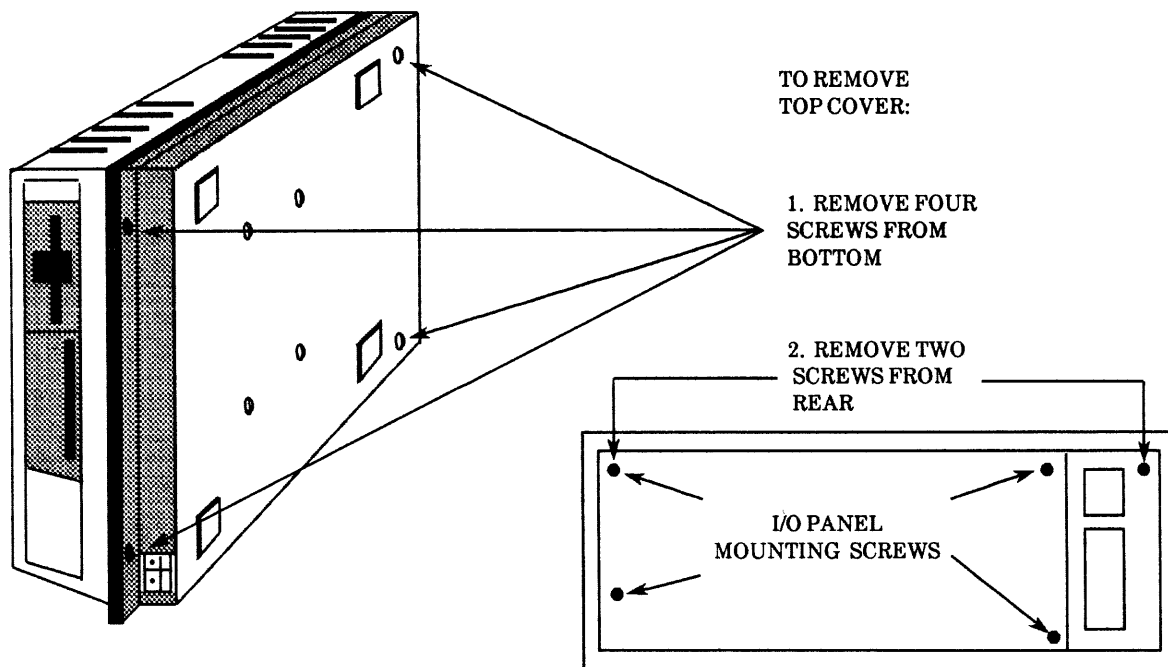

Figure 3-1. Top Cover and I/O Panel Removal
2. As shown in Figure 3-1, turn the chassis on its side so that you can gain access to the top cover retaining screws in the bottom of the chassis.
1. Remove the four screws holding the I/O panel in place. (Refer to Figure 3-1.)